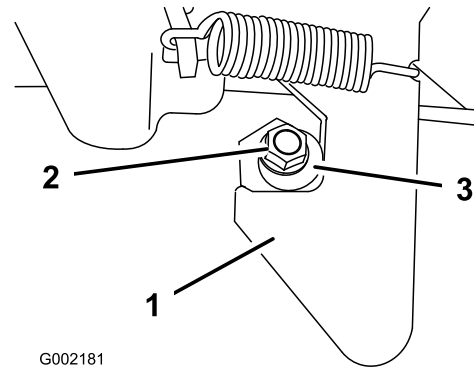

Figure 56
- Loosen the locknut on the end of the latch post (Figure 56).
- Rotate the latch post clockwise until it is snug against the hook portion of the latch (Figure 56).